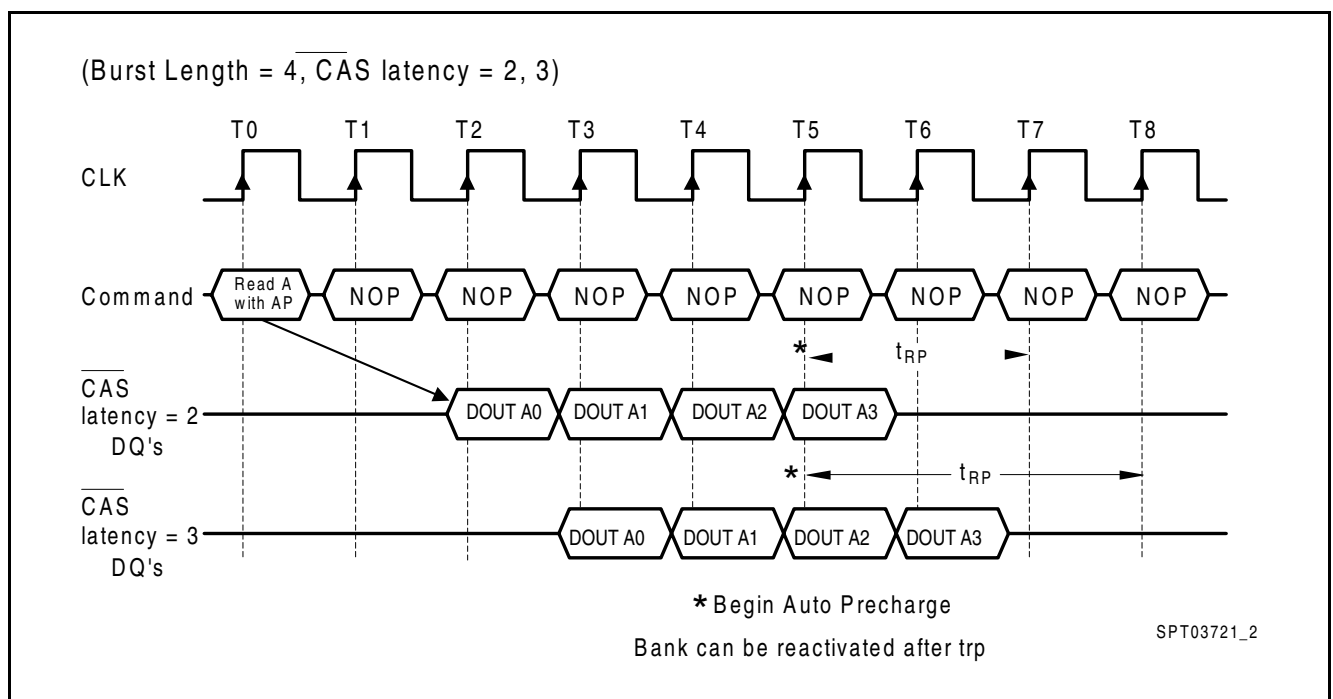

Figure 15 Burst Read with Auto-Precharge
- **Figure 15** Burst Read with Auto-Precharge